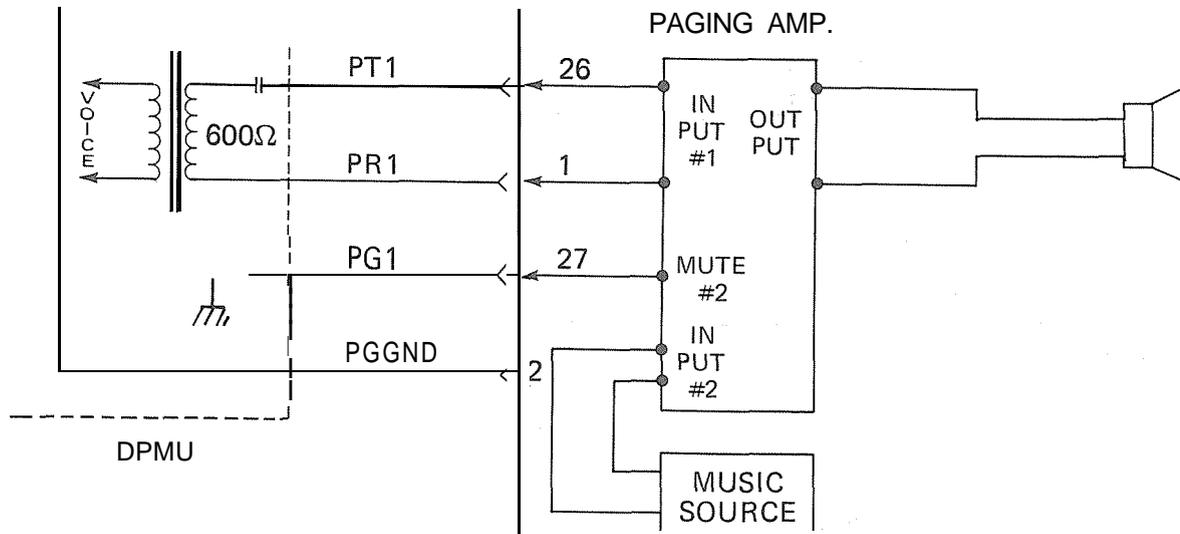

FIGURE 39—PAGING WITH MOH FROM SAME AMPLIFIER
12.22 Figures 39 & 40 show possible paging arrangements. As a standard feature (part of the DPMU PCB), the system provides a 600-ohm output to a paging amplifier. If more than one paging zone is required, the output of the amplifier can be routed back to the DPMU PCB where it will be switched to one of five sets of speakers via relays K1 through K5. The relay to be operated is determined by the access code dialed by the station user. The actual access code is assigned in software (see Section 100-100-300, Programming).
- 2) If the music is connected to a second input of the paging amplifier (as in Figure 39), the PG 1 control lead (J13 pin #27) can be connected to the MUTE terminal of the page amplifier music channel. When any page access code is dialed, a ground output is applied to the PG1 lead to mute the music.